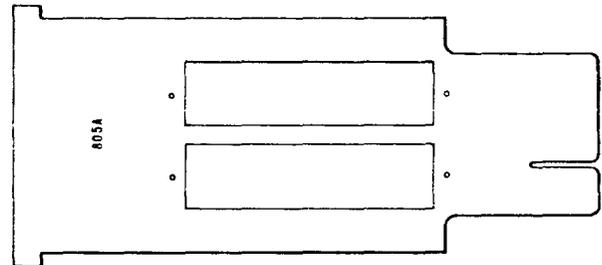

Fig. 6—805A Voltage Divider Network Tester Tool
**2.12 805A:** The 805A voltage divider network tester tool (Fig. 6) is used in replacing the Automatic Number Identification Type B (ANI-B) identifier circuit, SD-95810-01, with the new identifier circuit, SD-1C593-01.